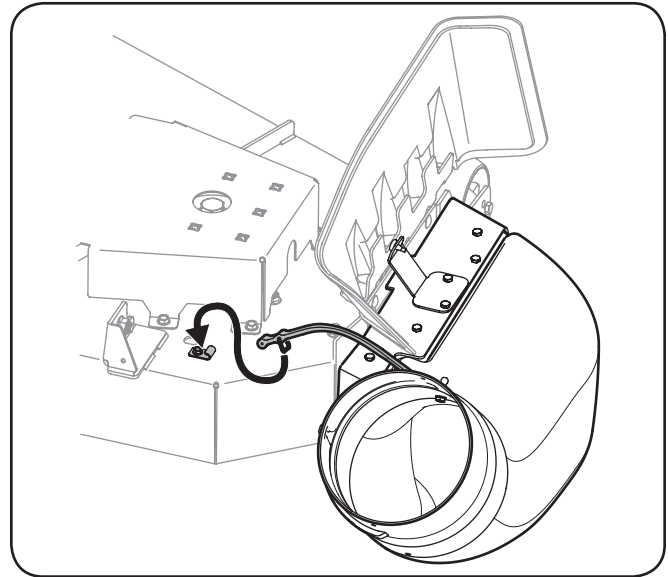

Figure 4-20
6. Attach the retainer strap on the discharge chute to the retainer clip on the deck. See Figure 4-20.